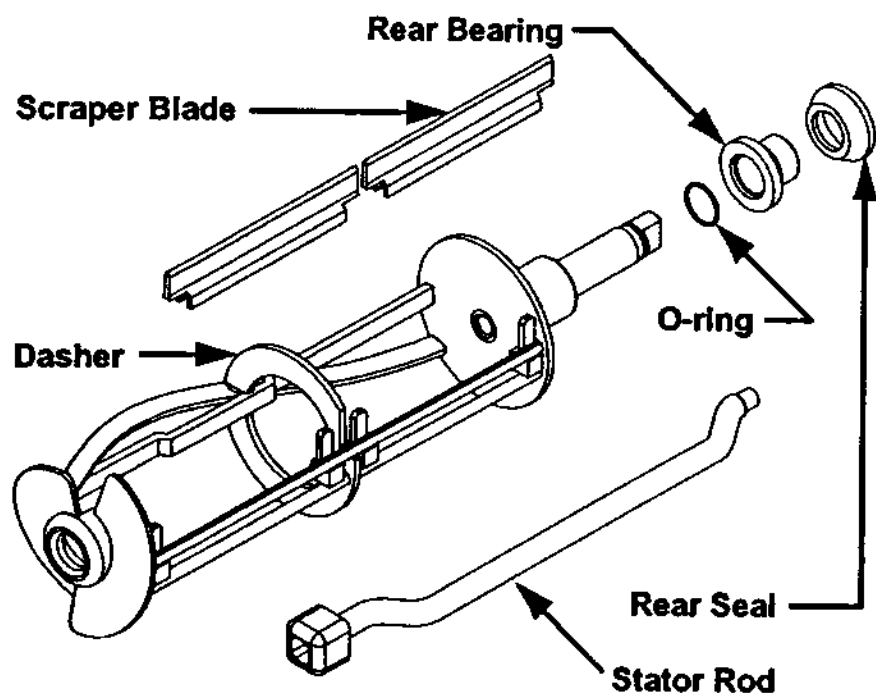
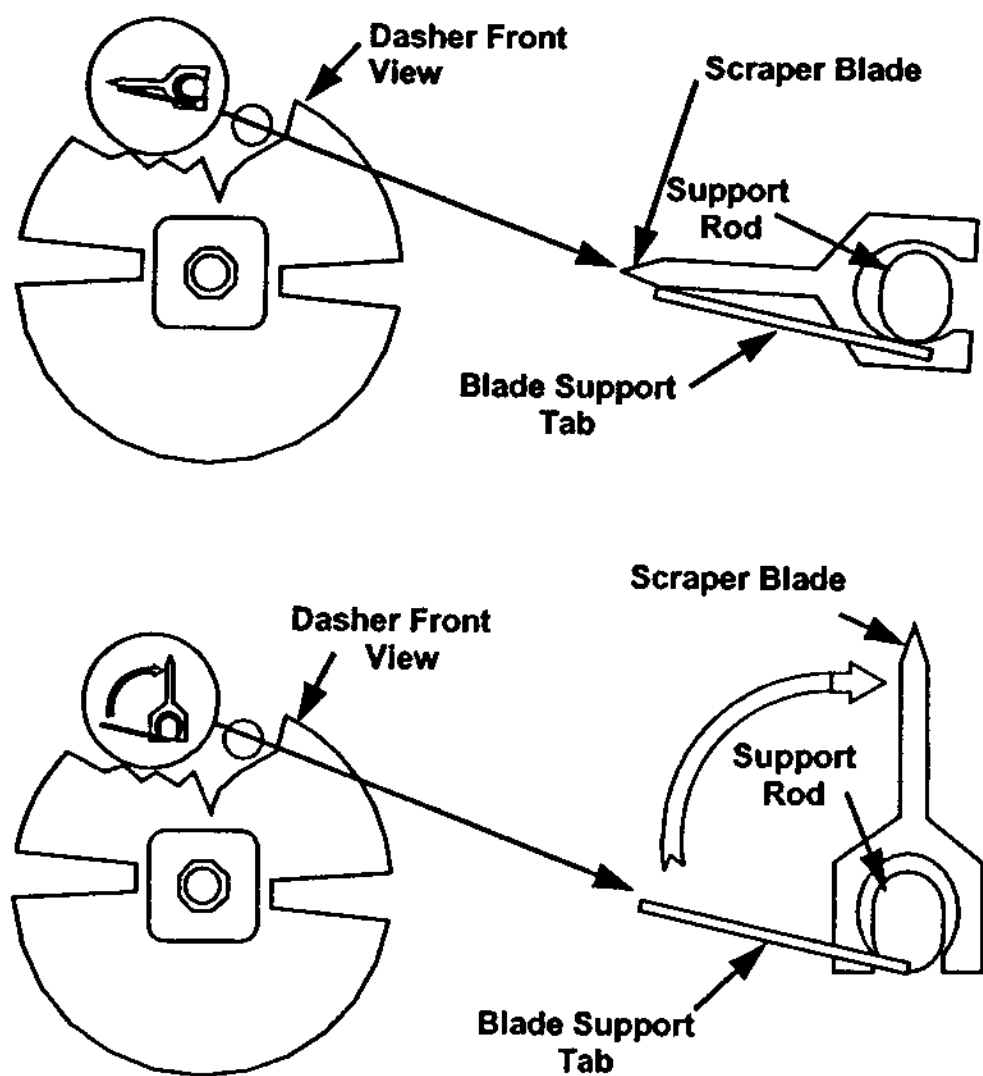

Fig. 18
Fig. 19
9. Remove the dasher assembly (Fig. 18) being careful not to damage the scraper blades, then disassemble in the following manner:
- Remove the blades from the dasher (Fig. 18) by first rotating blade upward (Fig. 19) and then unsnapping one end from the support rod.